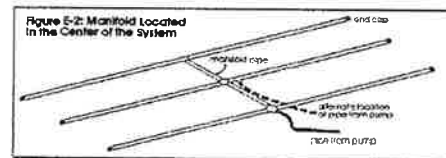

Figure E-2: Manifold Located in the Center of the System
- If perforated lateral system is attached to manifold pipe near the center, like Figure E-2, perforated lateral length (3) and number of perforations per lateral (5) will be approximately one half of that in step 8. Using these values, select minimum diameter for perforated lateral = inches.